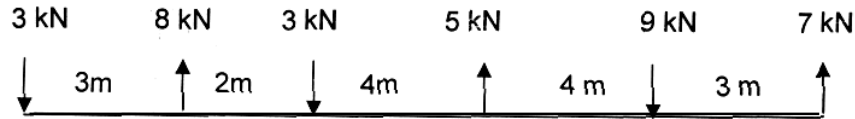

Fig.Q.11(a)
11. (a) Find the magnitude and position of the resultant of the system of forces as shown in Fig.Q.11(a)